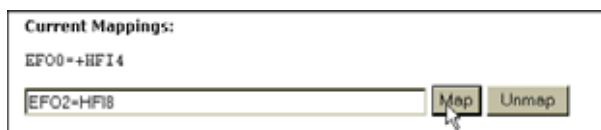

FIG. 275: CURRENT MAPPINGS/NET WEIGHT/ CHANNEL 1 (HFI8) ASSIGNED TO HARDY CONTROL-LINK FLOAT OUT (EFO2)
- Step 20. Click on the Map button to map the assignment statement. (See Fig. 275)